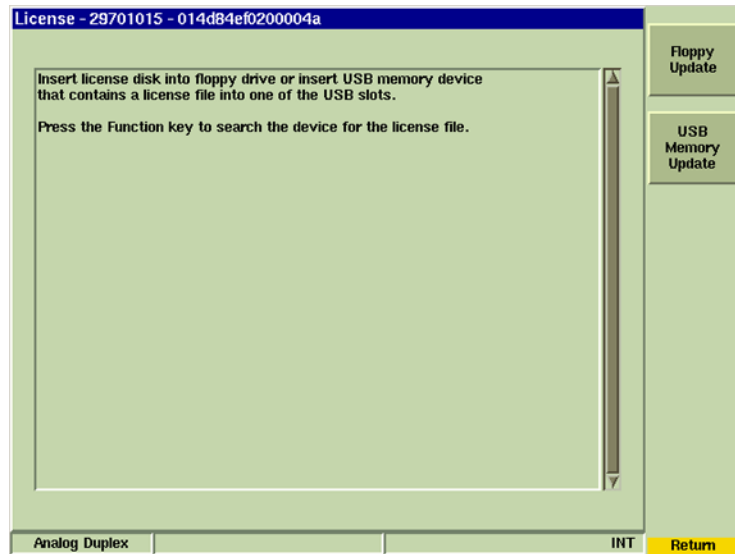

Fig. 3-56 Install License Tile
3. Press [**Install New License**] Soft Key on License Tile. Display changes to a screen similar to the one shown in Fig. 3-56.